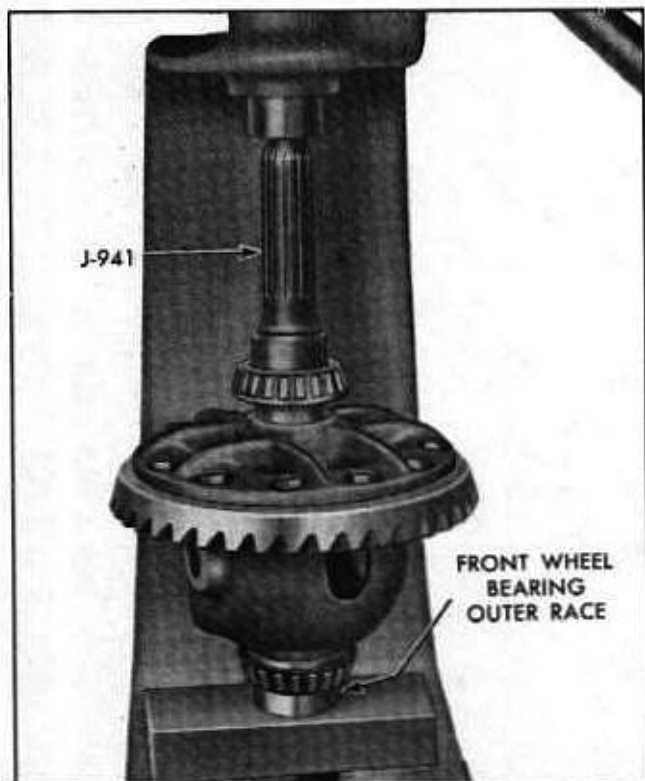

Fig. 4-42 Installing Side Bearings With Installer J-941
b. Install bearing by pressing or driving inner race onto case using Installer J-941 (Fig. 4-42). Press only on inner race or bearing will be damaged.
16. Visually inspect side bearings for wear and replace if necessary. Install inner race and roller assemblies on hubs using Installer J-941 (Fig. 4-42). After bearing has been installed on one side, it should be supported by the inner race by some suitable means such as an outer race from a front wheel bearing, when bearing on other side is being installed. **NOTE:** After bearings have been installed, inspect fit of inner races on case hubs by prying against shoulders at puller recesses. Bearing inner races must be tight on case hubs; if loose, replace with new bearing or, if necessary, new case.